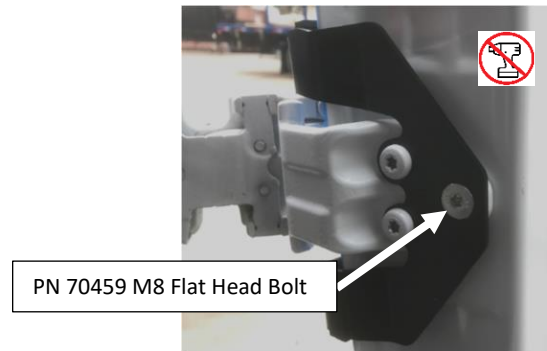

Figure 5: Bracket Installed Over Factory Hinge
16. Install the bracket around the hinge in the correct orientation (Figure 5).
17. Tightening the bracket down using the factory hardware and the M8 countersunk bolt to reinstall the hinge/bracket (Figure 5).